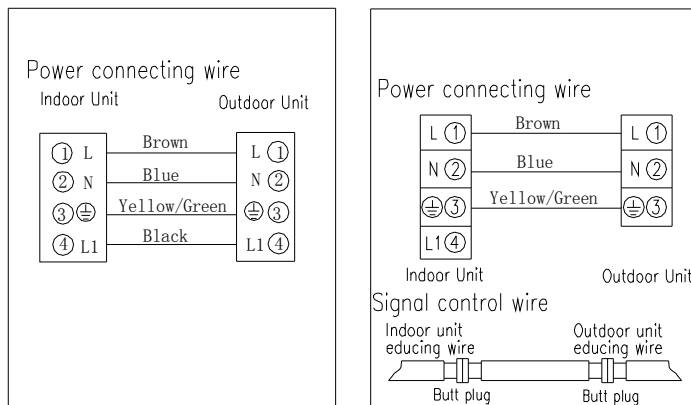

Fig.14
- Connect the power connecting wires and signal control wire separately to the corresponding terminals. (In Fig.14, please choose the same wiring diagram just with the wiring diagram of unit .)
- Connect the connecting wires of the unit separately to the corresponding terminals. (Fig.14)